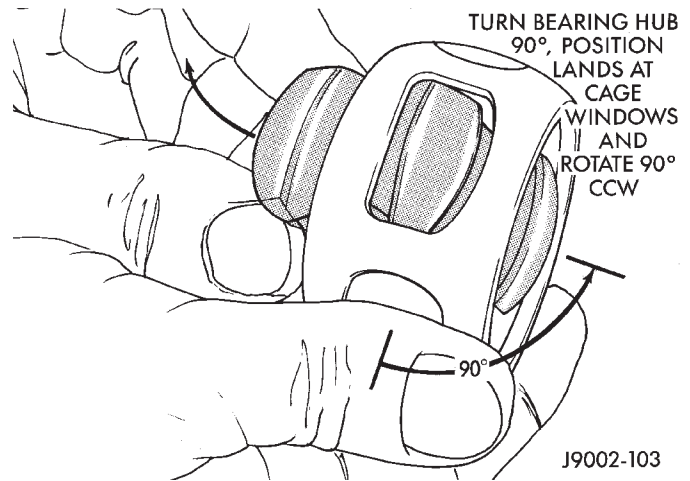

Fig. 14 Bearing Hub Removal
(10) Insert one of the bearing hub lands into the adjacent cage window and roll it out of the cage (Fig. 14).